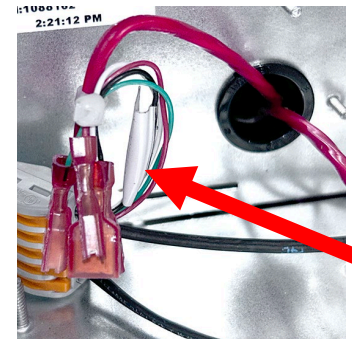

Figure 49
- 52. Zip tie up the harness labeled marked **LEFT** back and out of the way (see Figure 49).